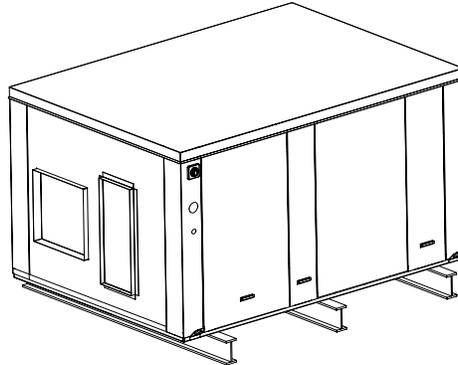

Figure 5. Locations for Field-Supplied Cross-Support Rails
- If setting cross-supports (see Figure 5) on the roof surface and not decking, be sure to have sufficient tread material under the supports to adequately spread the load and prevent *sinking* into the roofing material. The field-supplied, weather-resistant, cross-support structure must be secure and adequate for the weight (refer to Table 3) of the unit.